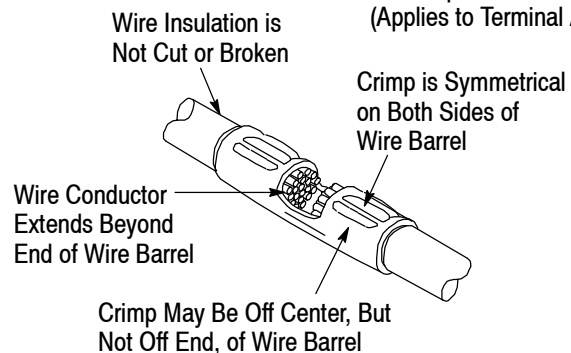

Figure 4
7. Remove the terminal or splice from the tool, and inspect the crimp according to Figure 4.